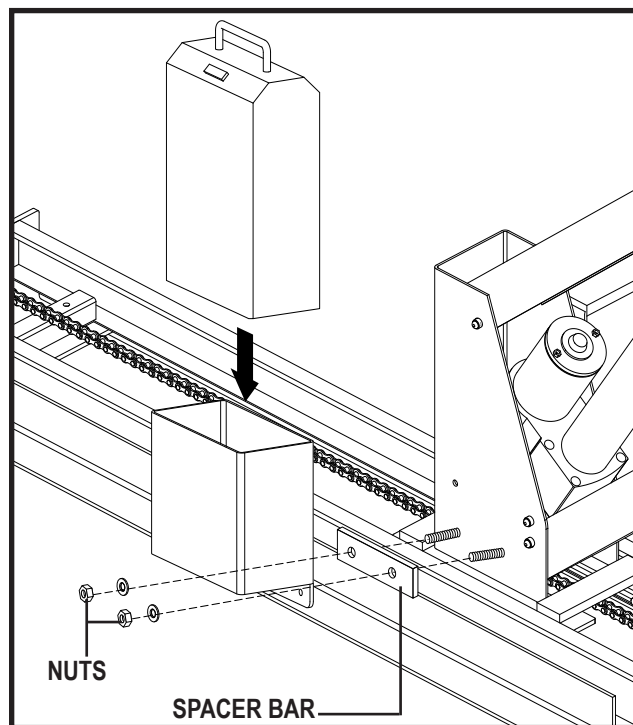

Figure 4. Onboard Battery installation (Type I)
1. Remove the nuts and washers from the protruding bolts on the side of the lift motor housing. **See figure 4.**
3. Mount the battery case onto the protruding bolts and secure into position with the nuts and rubber caps removed earlier. **See figure 4.**